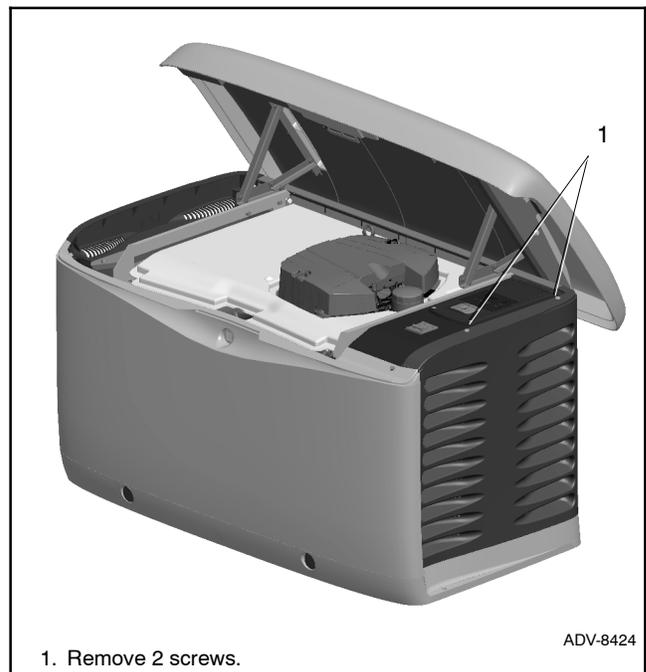

Figure 1-4 Removing the Air Intake Panel
1. Remove two screws from the top of the air intake panel. Pull the the panel up and off. See Figure 1-4.